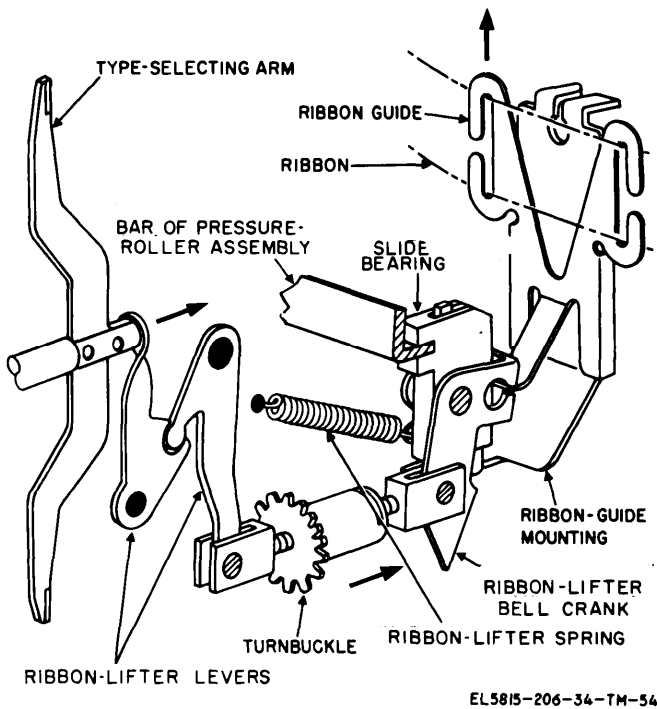
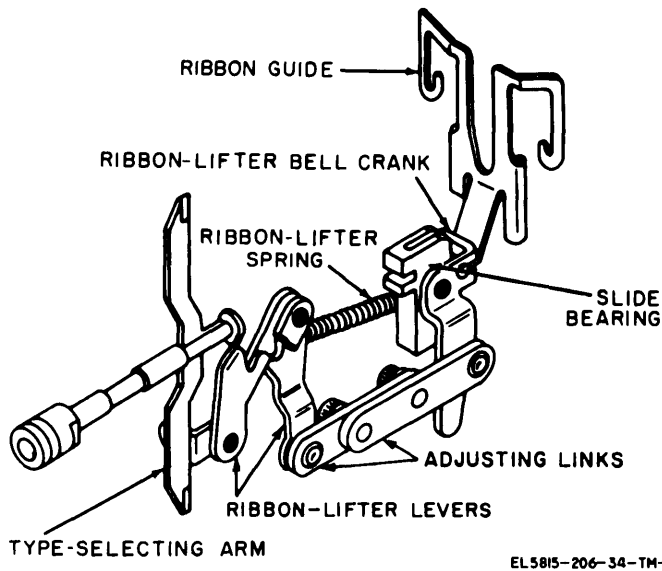

Figure 2-54. Ribbon lifter mechanism (TT-4A/TG and TT-698/TG).
Figure 2-55. Ribbon lifter mechanism (TT-4B/TG, TT-4C/TG, TT-335/TG, TT-537/G, TT-698A/TG and TT-698B/TG).
The ribbon moves upward an instant before a type-bar strikes the platen and returns to its normal lower position after the character is printed. The ribbon is threaded through the ribbon guide (fig. 2-54 and 2-55) and moves upward and downward with the guide as described below.
*a.* Each time the type selecting arm moves forward (para 2-21), it causes the ribbon-lifter levers to rotate slightly about their pivot points. When this occurs, the turnbuckle of the TT-4A/TG and TT-698/TG (fig. 2-54) or the adjusting links of the TT-4B/TG, TT-4C/TG, TT-335/TG, TT-537/G, TT-698A/TG and TT-698B/TG (fig. 2-55) moves forward, pivoting the ribbon-lifter bell crank, and the ribbon guide and ribbon move upward.